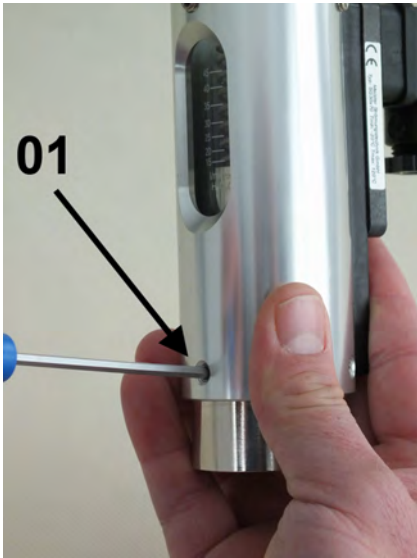

Fig. 48: Secure the process connection (inlet)
- 9.** ➤ Secure the inlet process connection to the device housing with 3 hex socket screws with 3 hex socket screws (Fig. 48/1), observing the proper torque.